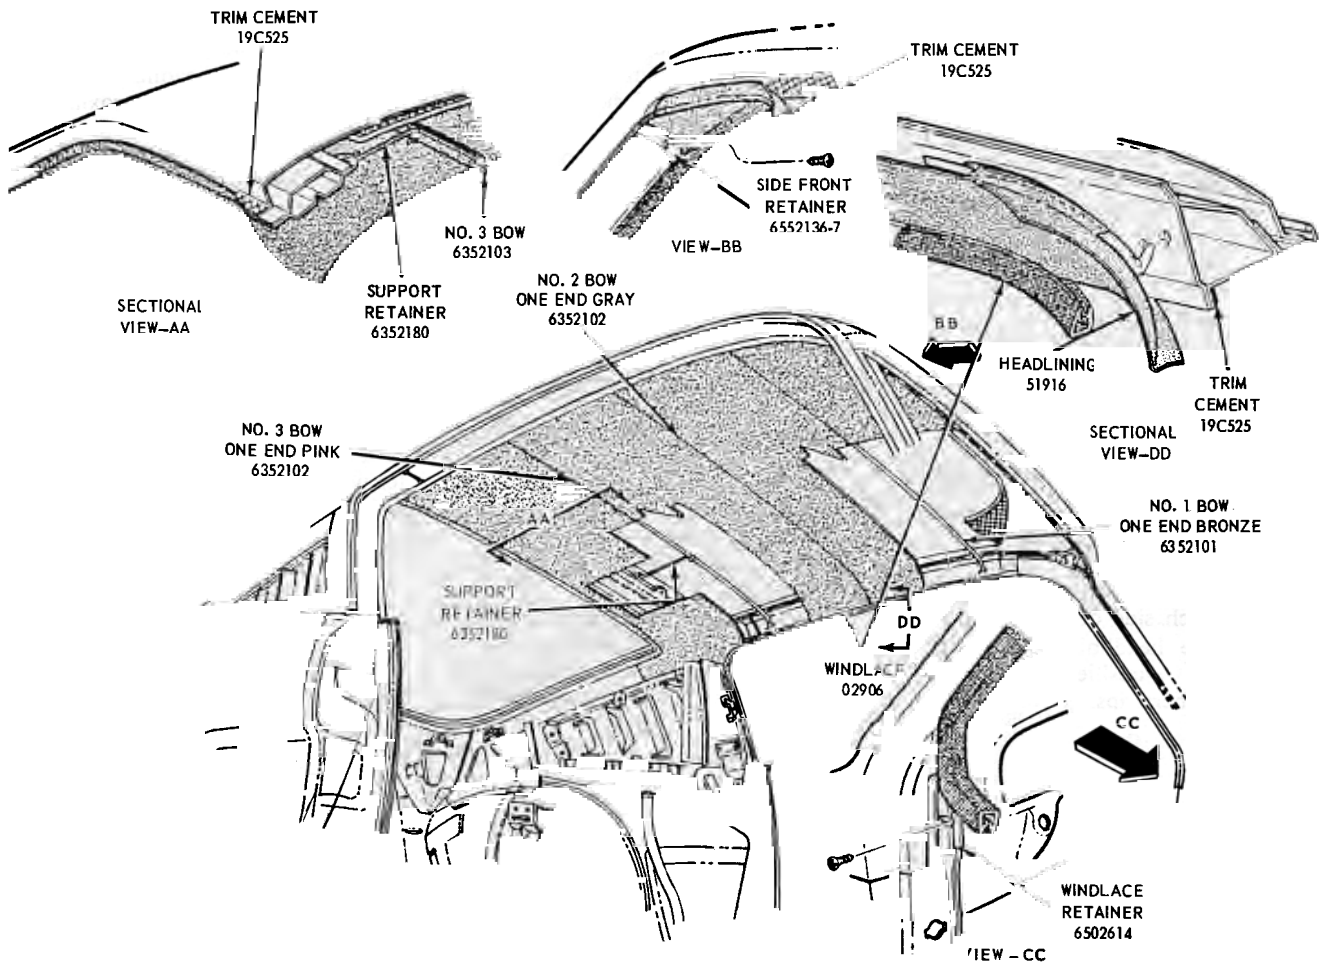

FIG. 6—Headlining Installation—Mustang Model 63
2. Remove the roof headlining side front retainer from each A pillar (Fig. 6—View BB).
6. Remove the windlace from the door openings (Fig. 6).
10. Place the old and new headlinings on a clean surface and transfer the bows to the new headlining. The bows are color coded on one end for identification (Fig. 6).
16. Apply trim cement (C2AZ-19C525-A) to the roof side rails at the door openings. Position the headlining to the side rails and trim off any excess material (Fig. 6).